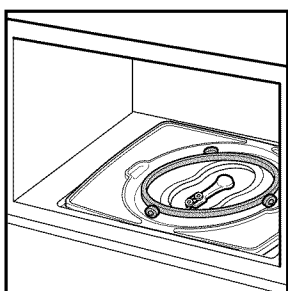

Figure 3
2. Place the rotating ring on the guide tray. (See Figure 3)